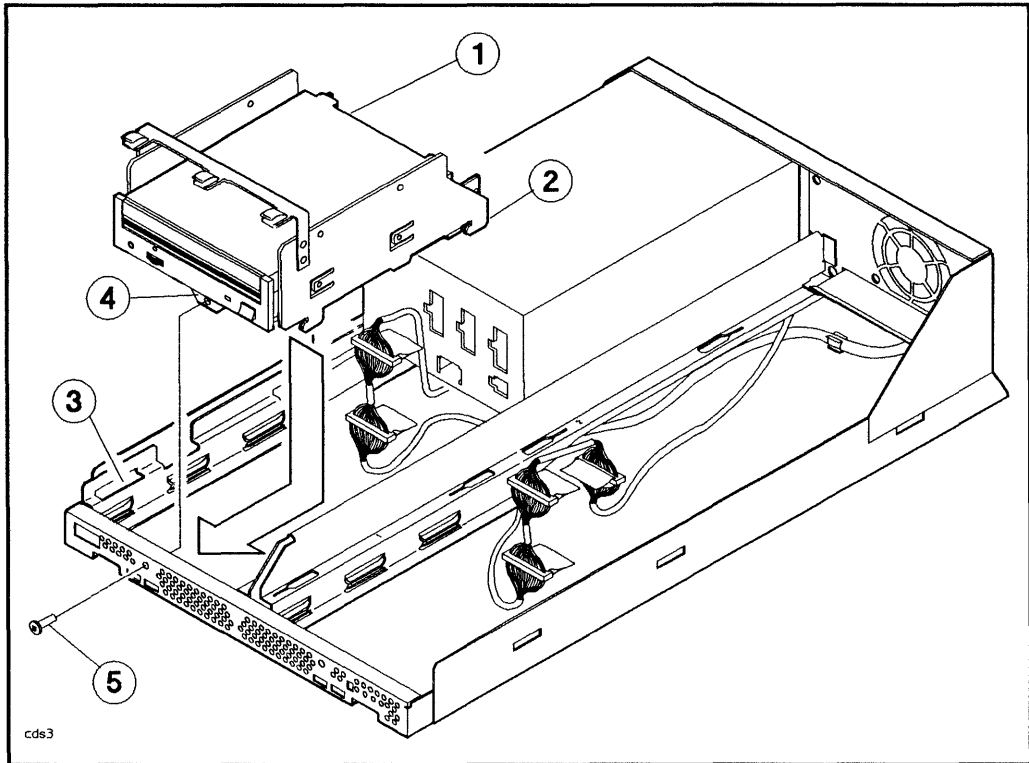

Figure 6-5. Installing a CD-ROM Drive into Slot 3
1. Position the mounting tabs into the mounting slots (see Figure 6-5).